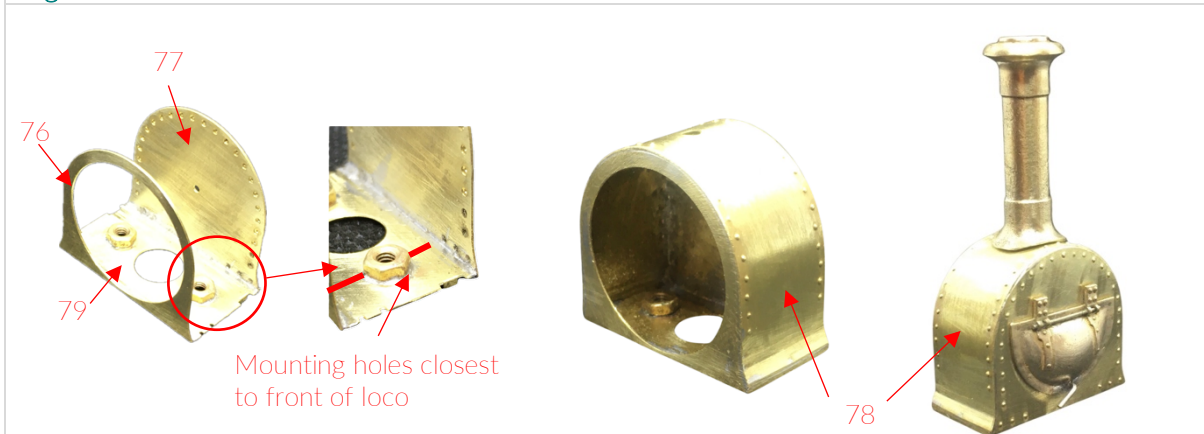

Fig 2.9 – The smokebox
2.9 – Smokebox. Punch out rivets on the smokebox front (77) and the smokebox wrapper (78). Solder 2 M2 nuts centrally over the two outer holes in the base plate (79) – these will be used to attach the smokebox to the running plate later in the build. **Note:** *It's important that the base plate is oriented correctly, otherwise the smokebox will locate in the wrong place on the running plate. The holes are not equidistant from front to back – the holes should be closer to the front of the loco (See fig 2.9).* Solder the smokebox front (77) and back (76) to the outside edges of the base plate (79), ensuring they are square, and that half-etched fold lines for the locating tabs are facing down. Note that the wrapper is wider than the base plate (width of base plate + thickness of 77 & 76) so the wrapper can sit on top of 76 & 77. Bend down the front locating tabs. Pre-form the smokebox wrapper round a suitable diameter rod to match the smokebox curve. The boiler tube can be used for this, although it is a little undersized. Solder (from inside where possible) the wrapper (78) to the top edge of 76 & 77. Finally, smooth out the chimney (#C16) and smokebox door (#C17) castings with emery paper where needed, and either solder or epoxy in place. A handle/dart for the door is also provided (#C18).